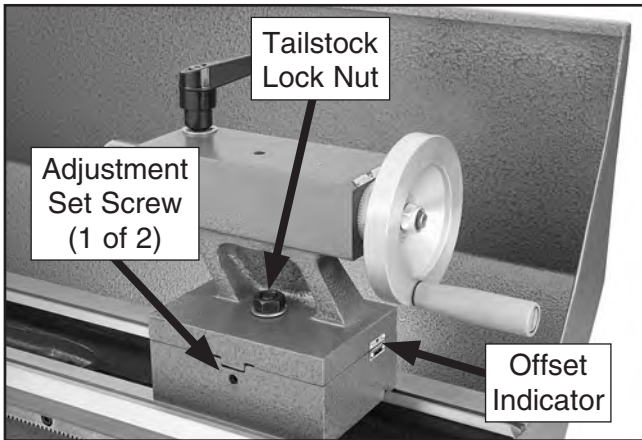

Figure 29. Left offset adjustment.
1. Loosen the tailstock lock nut (see **Figure 29**).